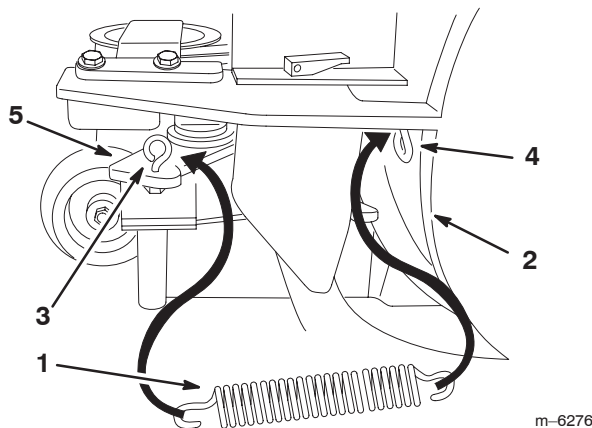

Figure 15
4. Slide the spring into the blower eye bolt (Fig. 15).
5. Install the spring into the idler arm eye bolt (Fig. 15).